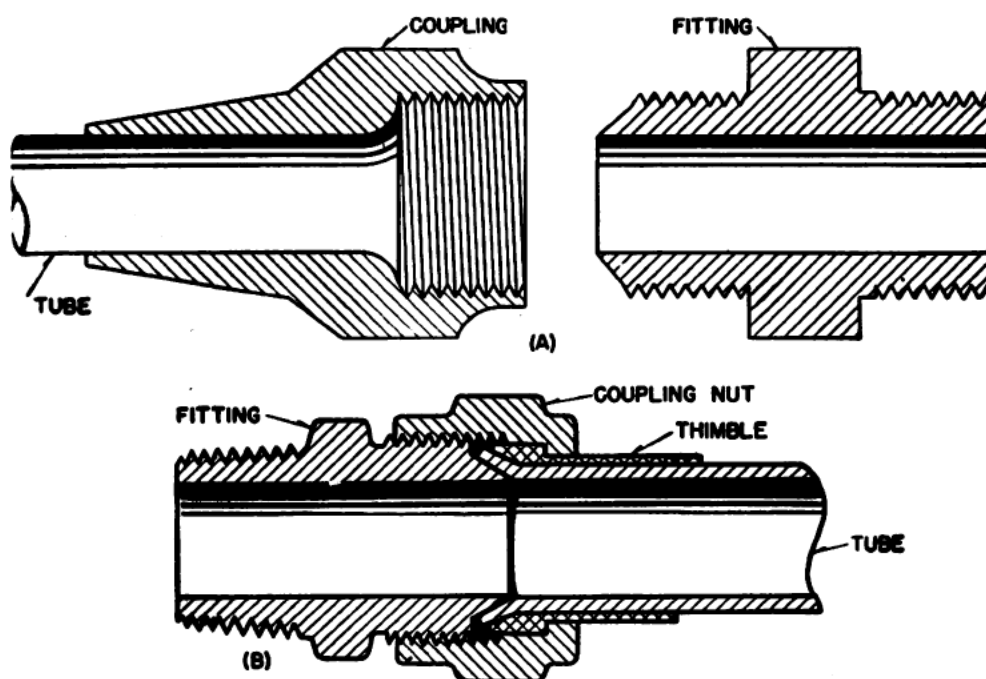

Figure 6.—Coupling for airplane fuel systems.
Flared-type couplings are used for connecting aluminum-alloy tubing. In the type that you see in figure 6 (A), the coupling consists of two pieces, one having an internal thread and the other an external thread. The internal member is slipped over the end of the tube. The end of the tube is flared, so as to fit the seat in the fitting. The external-threaded member is then screwed into the internal member, and its tapered end makes a gastight fit with the flared end of the tube.
The tube to be flared is clamped between the two blocks and the upper end of each tube hole is countersunk to conform to the exact shape of the desired flare on the tube. A punch or flaring pin is moved into position directly over the end of the tube in the countersunk hole, and is then struck with a hammer until the tube is properly flared. Unless the end of the tube is square and smooth—you should use a file for this purpose—you will probably get a one-sided or cracked flare. Make the flare slightly longer than the taper on the end of the clamping nut, and a little shorter than the tapered surface on the fitting, as is shown in figure 6 (B). Do not make the flare too long, however, as it will not be drawn down tight on its seat, and a poor joint will result.